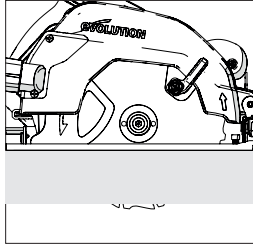

Fig. 12
- In most cases the cutting depth should be set at the thickness of the material to be cut plus the depth of half of a saw tooth (tip of the tooth to the tooth root). (Fig.12)
(13) CUTTING ANGLE (BEVEL) ADJUSTMENT